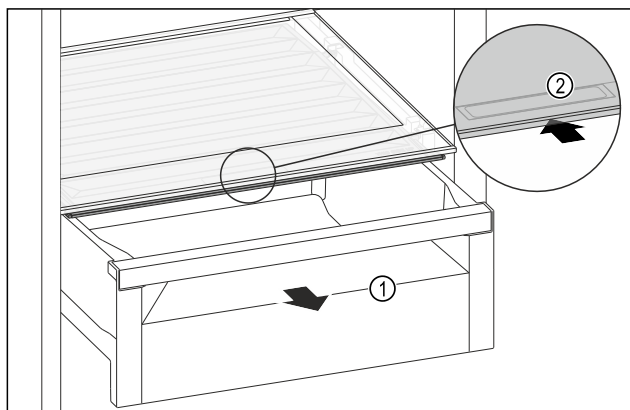

Fig. 87
- Pull out the drawer Fig. 87 (1).
- Grasp the recessed grip Fig. 87 (2) on the compartment lid and push the compartment lid backwards at the same time.